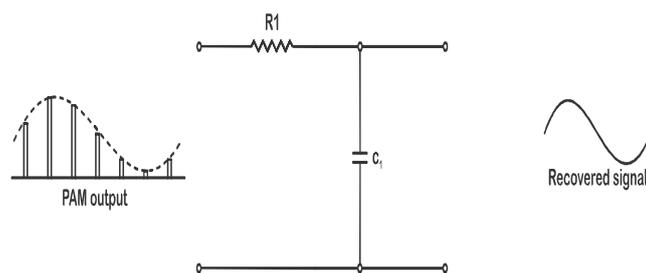

Fig.3.9 (b)
A process for generating PAM wave form is illustrated in fig 3.9.
- ❖ The block diagrams of fig 3.9 (a) shows a pulse generator triggering a mono stable multivibrator at an appropriate sampling frequency.
Demodulation is accomplished simply by passing the amplitude modulated pulse through a low pass filter. This process is illustrated in fig 3.9(b).
- ❖ The resistance R1 and Capacitance C1 shown in fig.3.9 form a potential divider.